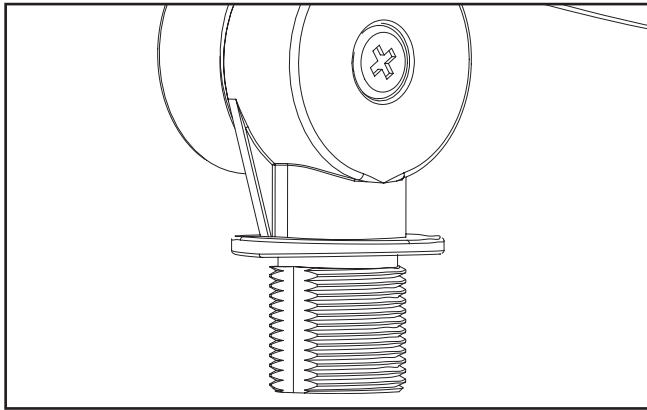

Figure 1.
1. Loosen the knuckle center screw with phillips head screw driver. Adjust the position and angle of the knuckle stem. Re-tighten the center screw to 9 in-lbs for Tracer Small or 17 in-lbs for Tracer Large. (Figure 1.)